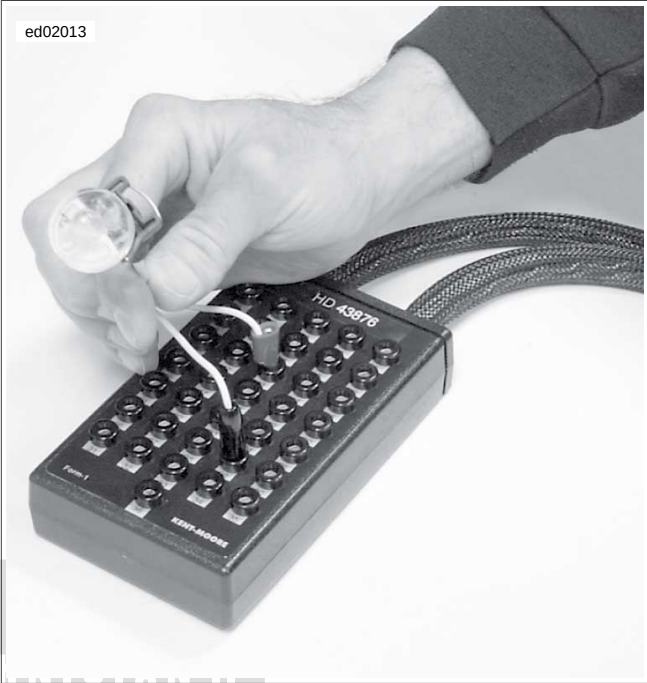

Figure 4-54. Ignition Coil Circuit Test
2. See Figure 4-54. Plug IGNITION COIL CIRCUIT TEST ADAPTER (Part No. HD-44687) and FUEL INJECTOR TEST LAMP (Part No. HD-34730-2C) into Breakout Box. Note that cranking the engine with test lamp in place of the ignition coil can sometimes cause a DTC P1351, P1352, P1354 or P1355. This condition is normal and does not by itself indicate a malfunction. DTCs must be cleared if this condition occurs.